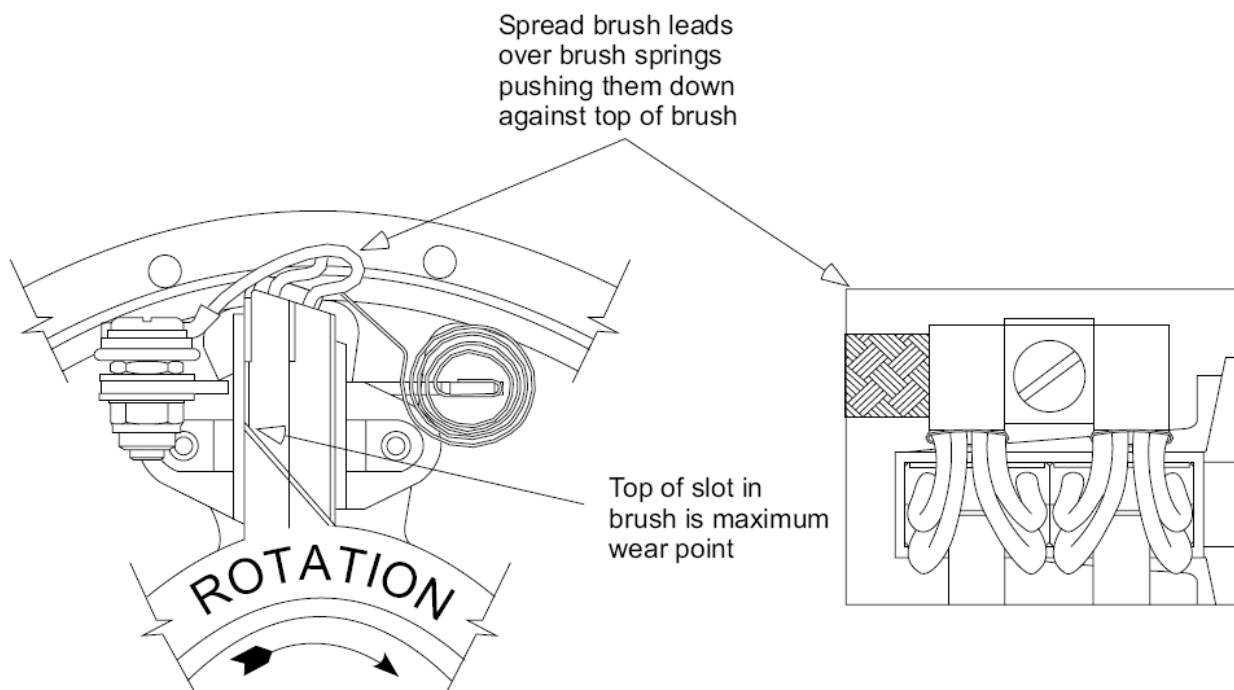

Figure 4
7. If there are sufficient hours are left, reinstall Brush Set #1. Refer to Figure 4 of this Service Letter for proper brush lead position. If there are not sufficient hours left, then replace unit.